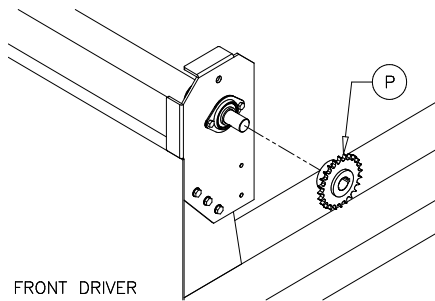
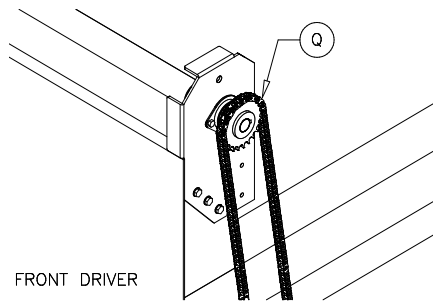
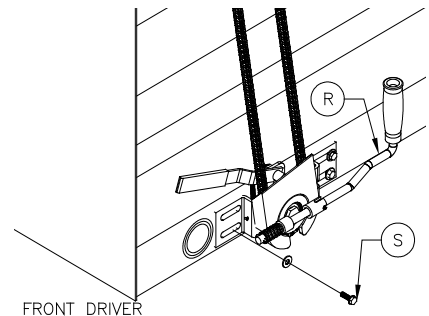

Figure 8
Figure 9
Figure 10
Procedure: Slide the 40X24 sprocket (P) and 1X hub on the roll-tube end (see Figure 8). Loosen the 3/4" bolt slightly so you can adjust the angle of the chain guard. Place the #40 roller chain (Q) on the 40X24 sprocket (P) (see Figure 9). Hang the bottom crank (R) from the #40 chain. Apply a downward force on the bottom crank (R) to stretch out the chain. Adjust the angle of the chain guard so the chain clears. Mark the slots of the bottom crank in the lower dump body. Tighten the 3/4" bolt with the chain guard is properly positioned. Using a 11/32" drill bit, drill four holes through the right sides of the bracket slots. Fasten the bottom crank to the box with the 3/8"x1-1/4" self-threading bolts (S) and 3/8" flat washers provided (see Figure 10). Further adjust the position of the #40X24 sprocket on the roll-tube end until it is aligned with the bottom crank (R). Remove the 5/16"x3/4" set screws from the 1X hub. Mark the location of the two 5/16" threaded holes in the 1X hub. Using a 5/16" drill bit, drill two holes in the roll-tube end approximately 1/4" deep. Secure the #40X24 sprocket and 1X hub to the roll-tube end with the 5/16"x3/4" set screws.